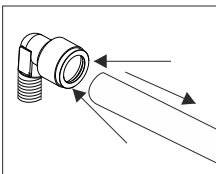

Fig. 2
- 2) Press the quick-coupling flange symmetrically and take out the tube (Fig. 2).